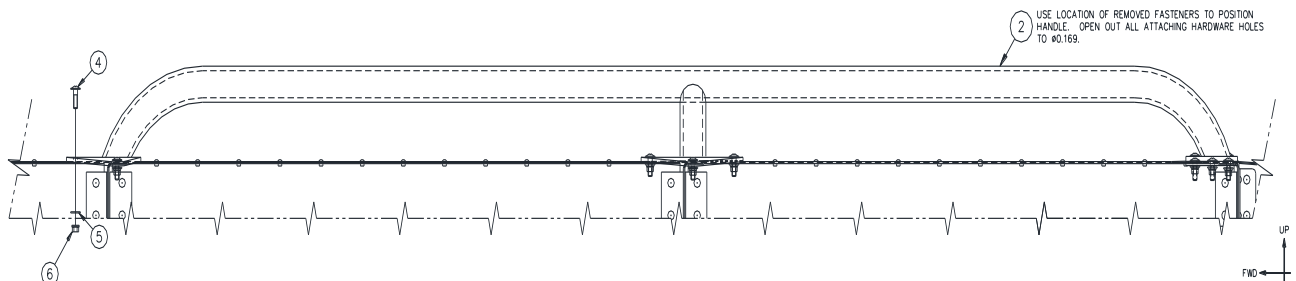

Figure 3
- 1.6. Reinstall the panels and install the door handle as per figure 3.